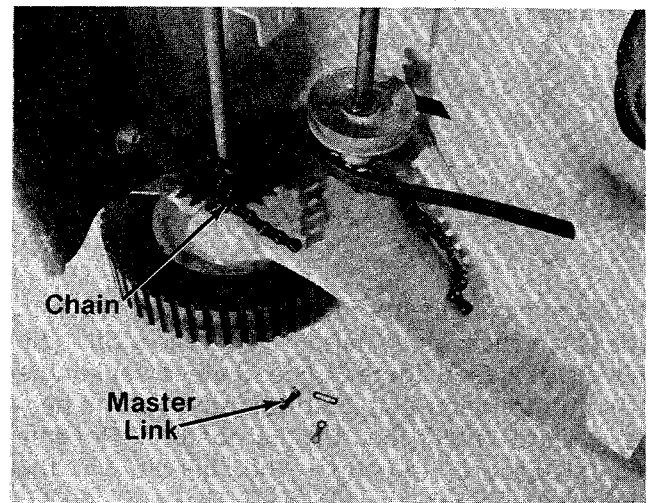

FIGURE 36.
- Remove the master link from the chain. See figure 36.